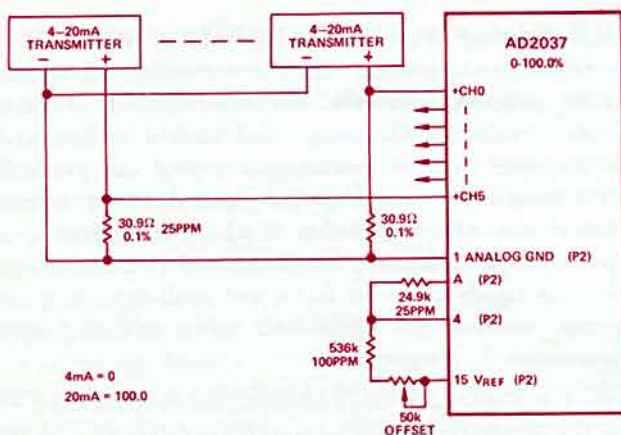

Figure 5. Process-monitor application.
PROCESS MONITOR In industrial processes, measurements of all kinds are often normalized to the 4-to-20mA current-transmitter range. The AD2037 can provide scanning and digital readout for six (6) such standard 4-20mA current loops as shown in Figure 5. The AD2037 is programmed for 0-100.0% Readout. Other readout ranges can be accommodated by changing the Gain and Offset programming resistors.